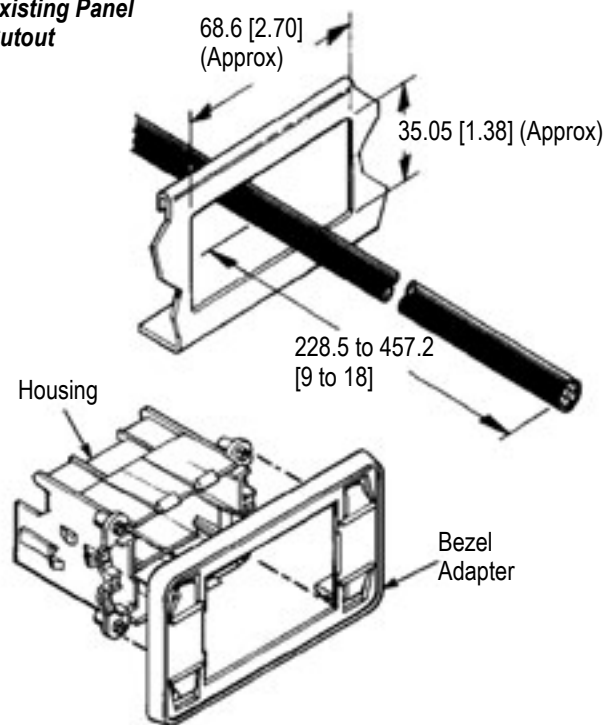

Figure 8
5. FURNITURE RACEWAY (Figure 8)